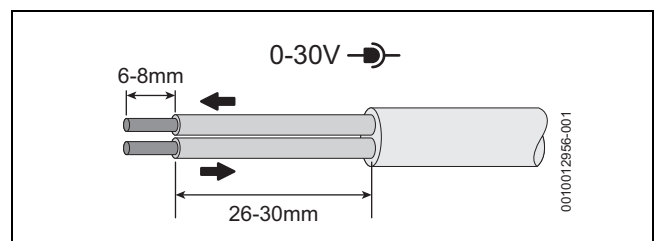

Fig. 62 Low voltage (signal cables) preparation
**Low voltage (signal cables), example → figure 62**